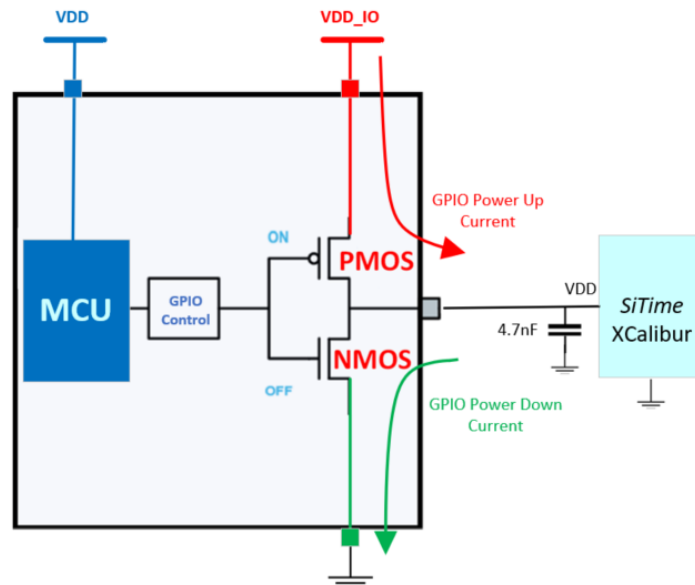

Figure 4: MCU Push-Pull Output Voltage and Current Path
- The decoupling cap minimizes power supply fluctuations and filters out power supply noise due to external influences. Adding a decoupling capacitor to a circuit introduces a charge and a discharge current during power-up (rising edge) and power-down (falling edge) of the GPIO output (Figure 4).